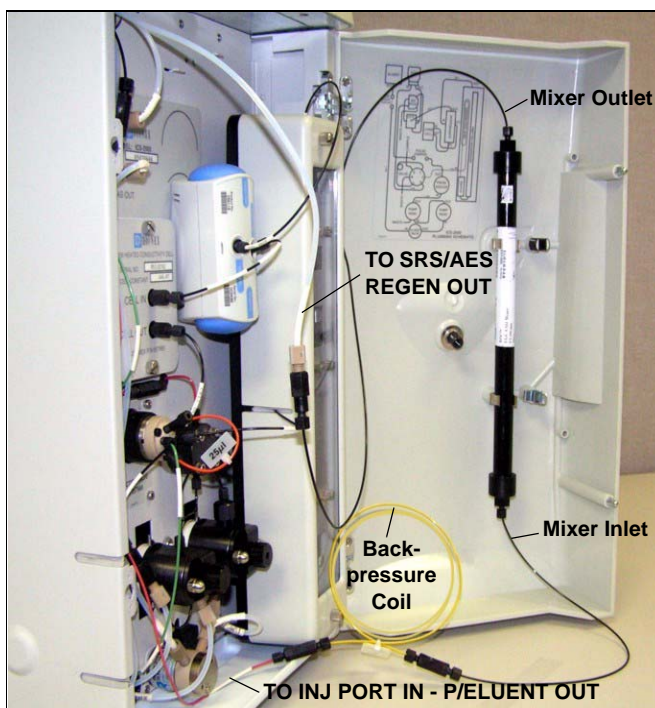

Figure 73. Mixer Connected Directly to Eluent Generator Outlet for Initial Filling
4. Disconnect the outlet of the yellow PEEK backpressure coil from the **TO SRS/AES REGEN OUT** line and then connect the backpressure coil to the mixer inlet (see Figure 73).